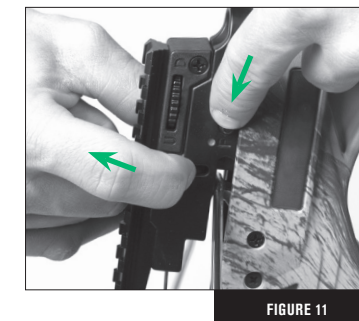

FIGURE 11
6. With foot firmly grounded in the stirrup, while holding the cocking preparation switch in the upward position, slide the safety switch to the “OFF SAFE” or FIRE position (Fig. 11).
1. Ensure that the crossbow is in the “OFF SAFE” or “FIRE” position. If the Safety is “ON SAFE”, push and hold the cocking preparation switch upward. While holding the cocking preparation switch up, slide the safety switch from the “ON SAFE” position to the “OFF SAFE” or “FIRE” position (refer to Fig. 11). Release the cocking preparation switch.